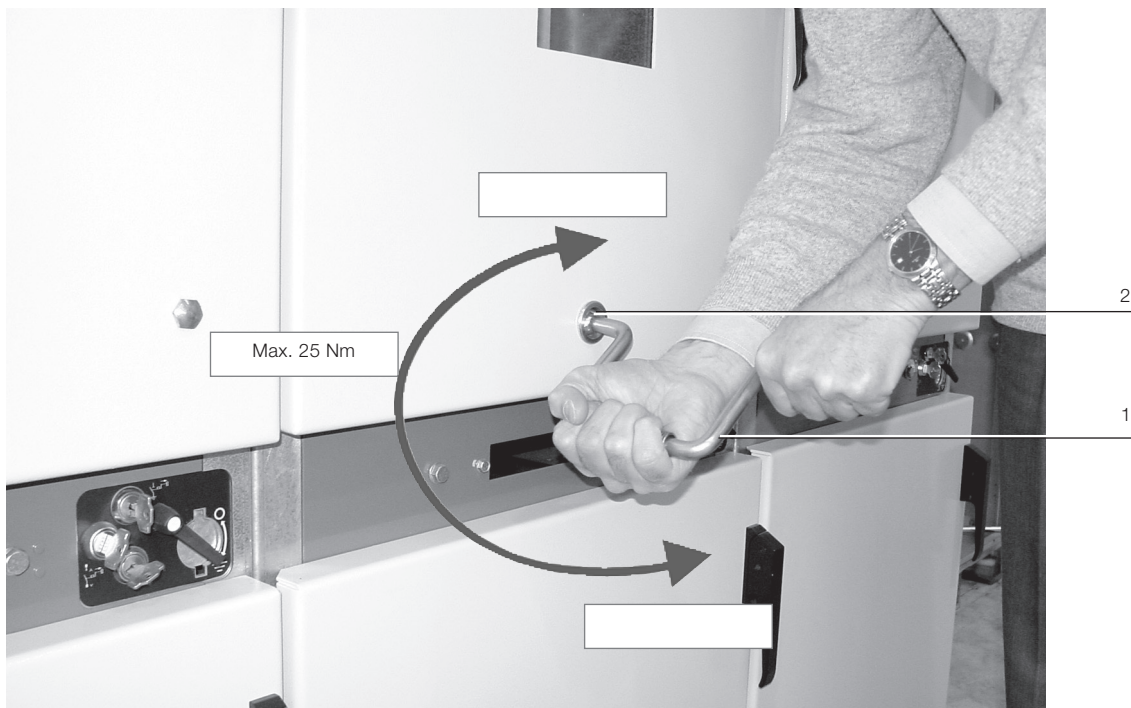

Fig. 8
1. Engage the racking handle (item 1 Figure 8) with the racking screw collar (item 2 Figure 8).
For racking-in/racking-out of the switchgear: connect the auxiliary circuits thereby supplying the locking electromagnet in the truck, fully insert the crank handle (1) (Fig. 8) in the appropriate seat (2) (Fig. 8) and work it clockwise for racking-in, and anti-clockwise for racking-out, until the end-of-run positions are reached (see par. 5.4. - 5.5- and 5.6.).